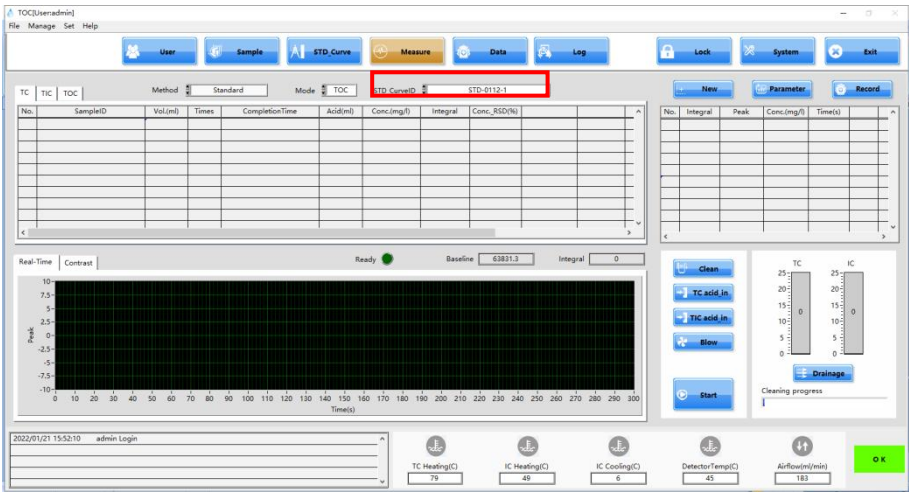

Fig.6.4
2)Click  , make sure it has standard curve (Fig.6.4).